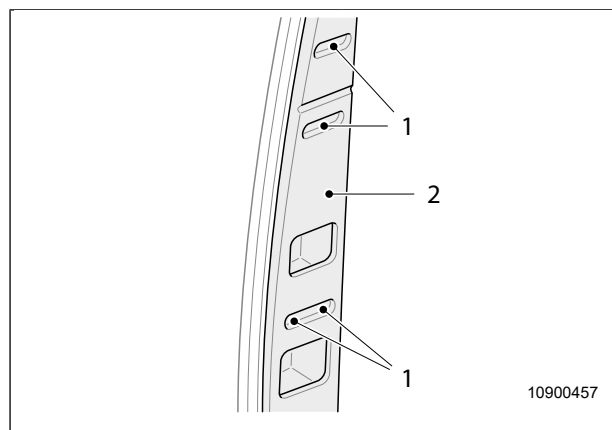

Fig. 63 Cover
3. Remove the protective caps (Fig. 63, item 1) from the cover (Fig. 63, item 2).
4. Use a screwdriver from the on-board toolkit to remove the attachment screws of the cover (Fig. 63, item 2).
5. Carefully remove the cover (Fig. 63, item 2).